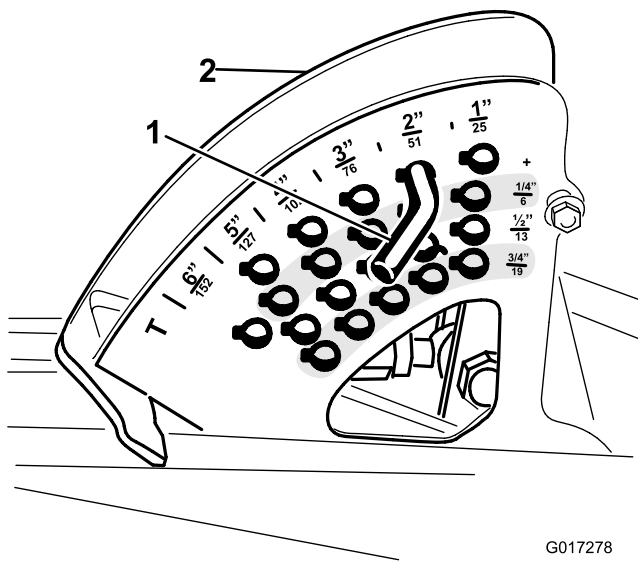

Figure 5
3. Note the location of the HOC pin in the HOC bracket for assembly purposes (Figure 5). Remove the HOC pin from the HOC bracket.
6. Install the HOC pin into the HOC bracket at the desired height of cut (Figure 5).